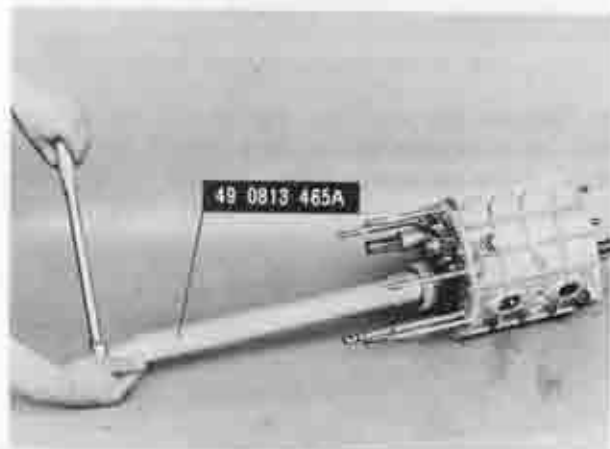

Fig. 7C-21 Removing lock nut
29. Straighten the tab of the lock washer. Using the lock nut wrench (49 0813 465A) shown in Fig. 7C-21, remove the lock nut from the main shaft.